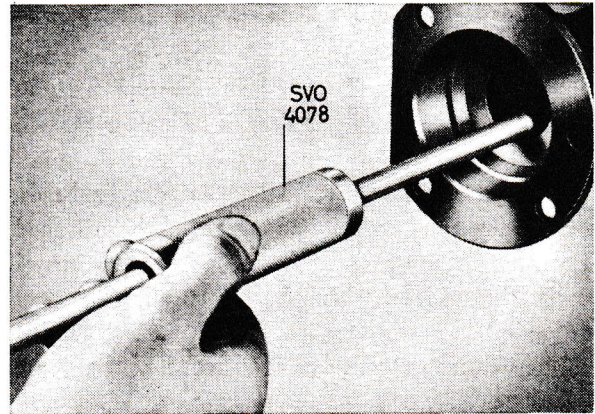

Fig. 3. Removing an oil seal.
3. Pull out the oil seal by using tool SVO 4078, Fig. 3.
4. Remove the oil seals (14) with the help of puller SVO 4078, see Fig. 3.